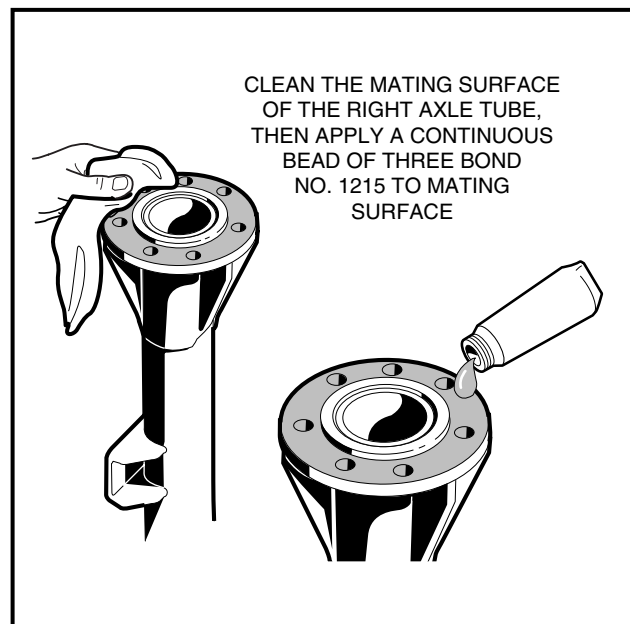
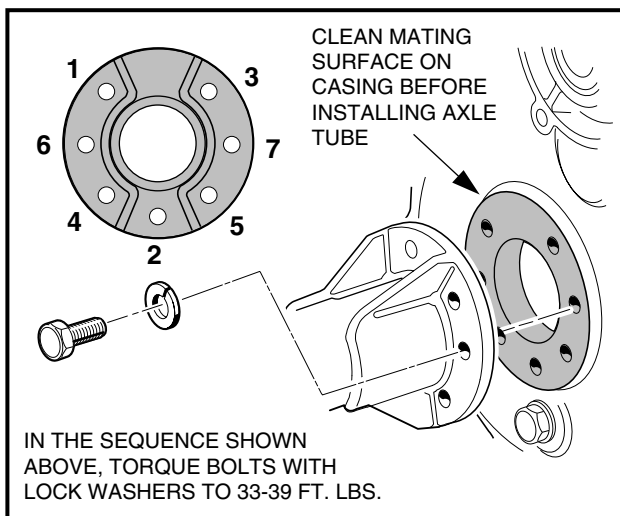

FIGURE 10-83
FIGURE 10-84
- 11.2. Apply a continuous bead of Three Bond No. 1215 around the opening on the mating surface of the right side axle tube as shown (Figure 10-83, Page 66). Then position the axle tube on the right side of the transaxle casing as shown and install eight mounting bolts (77) with lock washers (78) (Figure 10-6, Page 39) finger tight. In the sequence shown, tighten the bolts to 33-39 ft.lbs. (40.7/48.7 N-m) (Figure 10-84, Page 66).